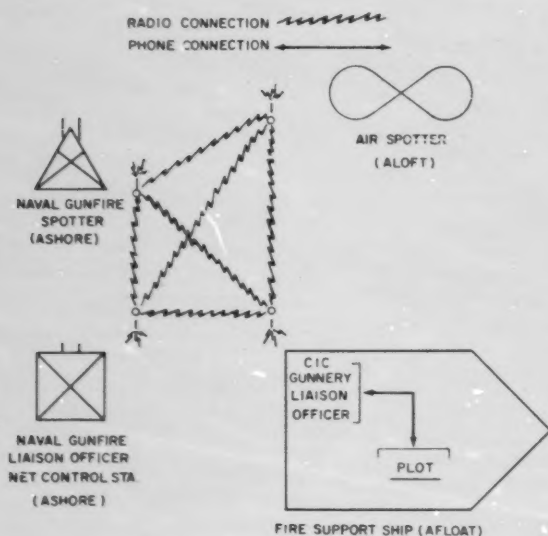

Figure 12-23.—Shore fire control spotting net. Schematic.
Figure 12-23 illustrated schematically the communication net (i.e., the participating stations) for a single ship in support of a battalion of troops ashore. The WLO aboard a ship (typically a battalion would be supported by a destroyer) is located in CIC, where he is connected by battle telephone with plot and the main battery director (the officer usually wears the phones himself) and by radio with the other stations in the net. Most often the radio contact is by voice radio-telephone (R/T) rather than by continuous-wave (CW) code transmission. The